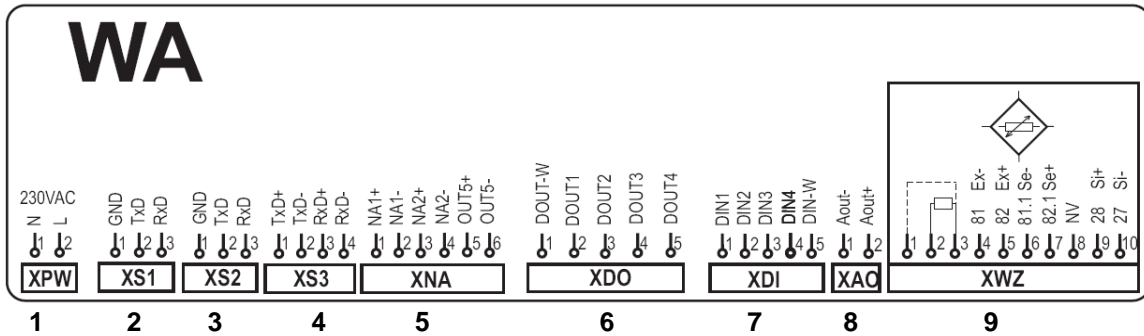

Fig. 9. WA-800 Indicator Interface terminals
- Pin 1 of the chip is removed (refer to the Figure 9; the flat side is on top).